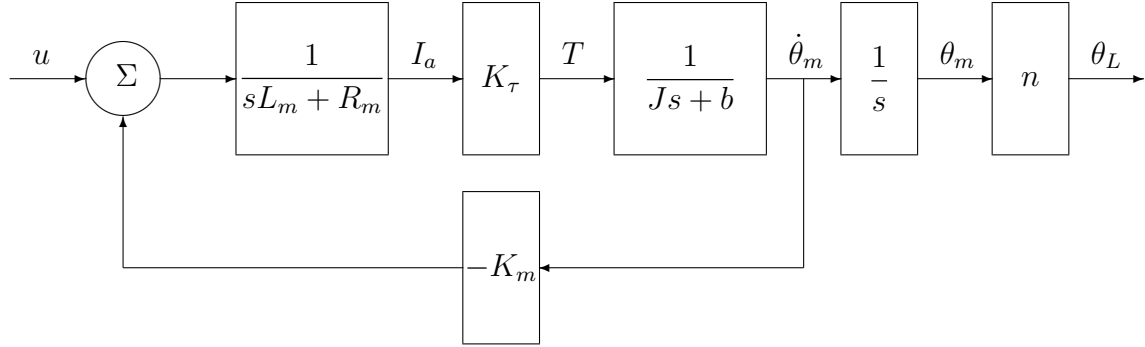

Figure 2: Block diagram of robot arm.
The block diagram for the robot arm is given in Figure 2.
Table 1: Descriptions and definitions of constants in Figure 2
**Assignment 1.** Based on the block diagram in Figure 2, and the parameter values in Table 1, calculate the transfer function of the robot arm first analytically and then print it out with numerical values.
**Assignment 10.** Again study the block diagram of Figure 2. Find the state space description of the system with the states  $x_1 = \theta_L$ ,  $x_2 = \dot{\theta}_m$  and  $x_3 = I_a$ . Compute the matrices  $A$ ,  $B$  and  $C$  analytically (*do **not** use MATLAB, this should be done by hand calculations*)